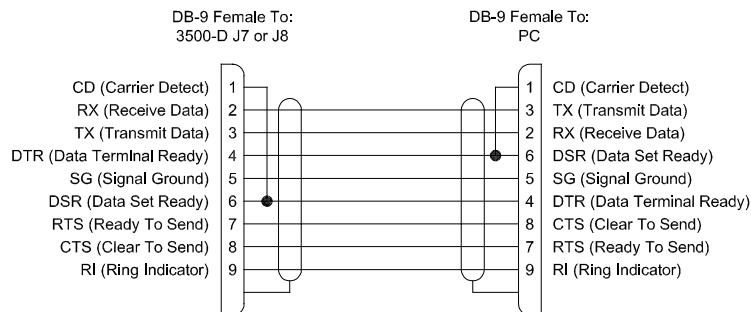

Figure 25. 3500-D RS-232 CPU Link (Null Modem) Cable
- COM 1 is the primary RS-232 CPU Link and may be connected to the PC running Win3500 Control System software with a null modem cable (Part No. 81-9028-0393-0). If necessary, a cable up to 50 feet in length may be fabricated in the field as shown in Figure 25. COM 1 may only be used with the P1E protocol, and only at 9600 baud.